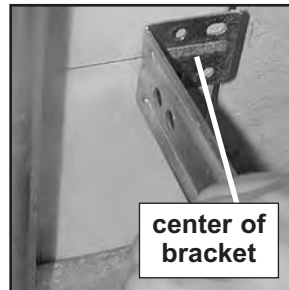

FIG. 4-2 Mounting brackets.
- Locate top of bracket on your mark (**Fig. 4-2**).
- Fasten each with 2 screws (**Fig. 4-2**).